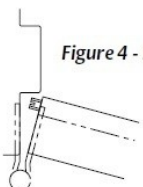

Figure 4 - Semi-Mortise Mounted
10. For semi-mortise mounted installation, the plunger contacts the rabbet (as shown in Figure 4).